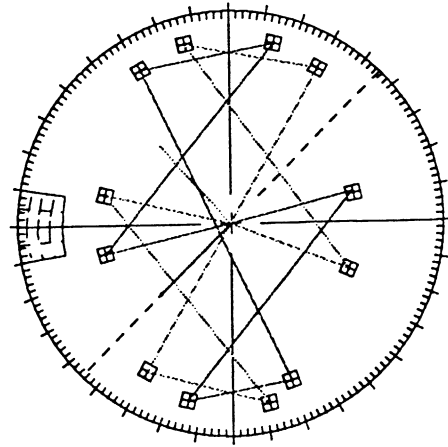

Fig. 5-37. A good display.
6. **CHECK** — the vectorscope display for a doubled trace. (See Figs. 5-37 and 5-38.)
11. **CHECK** — for double trace. (See Figs. 5-37 and 5-38.)